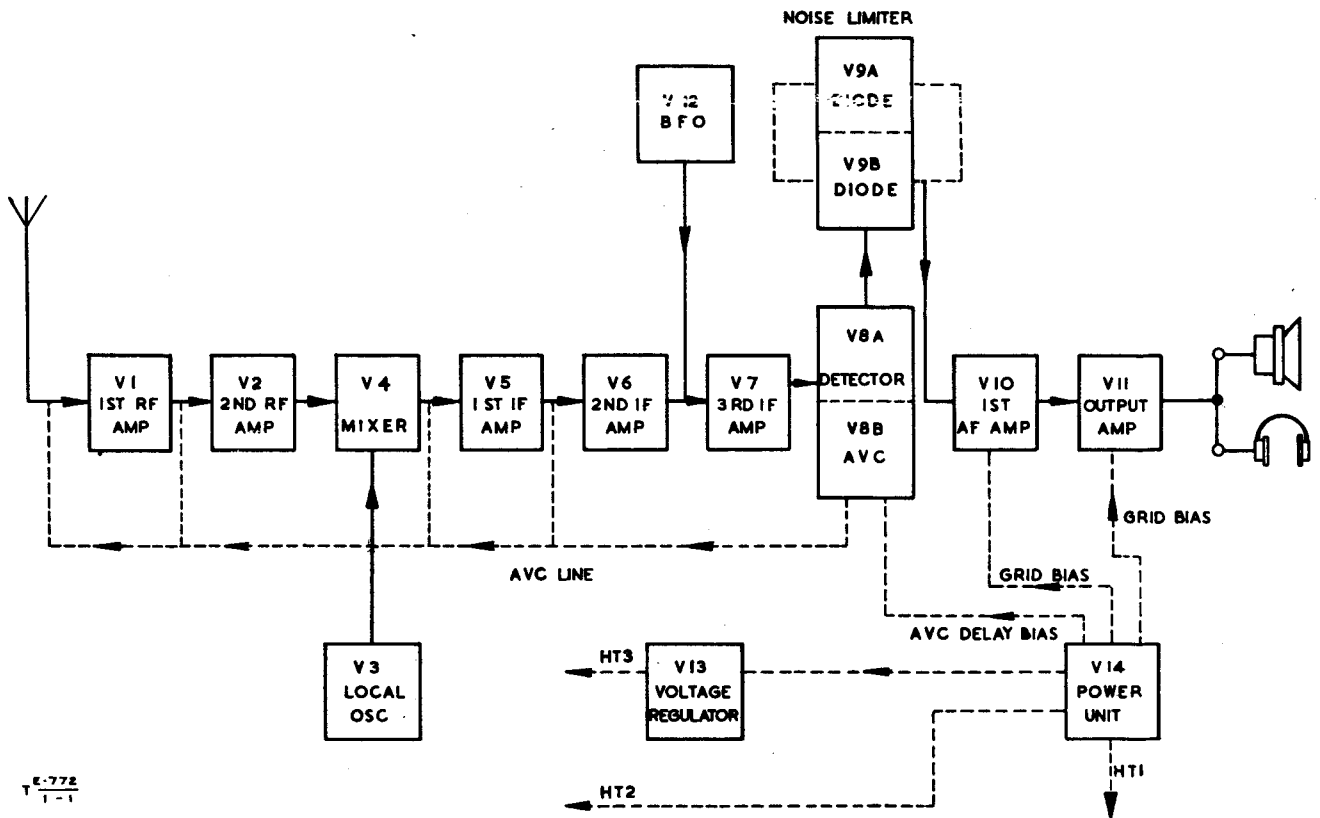

Fig 1 - AR88D and AR88LF - block diagram
3. Fig 1 gives the block diagram applicable to both receivers. The frequency range of each is covered in six bands as follows:-